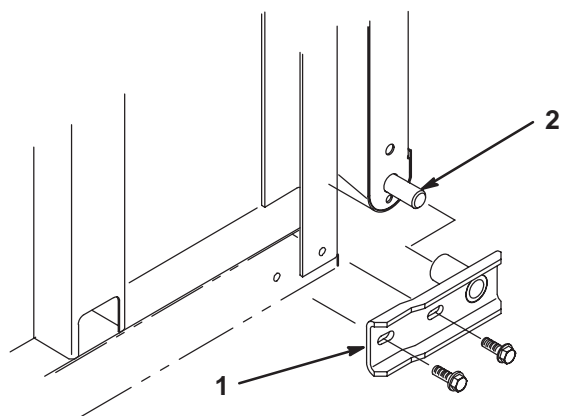

Figure 3
8. Place a pivot bracket over each lower pivot pin on tailgate (Fig. 3).
9. Lift tailgate into operating position. While lightly pushing forward on the bottom of the tailgate, secure pivot brackets to right and left side panels and bed with (2) 5/16–18 x 1" lg. flange head capscrews and flange locknuts (Fig. 3).